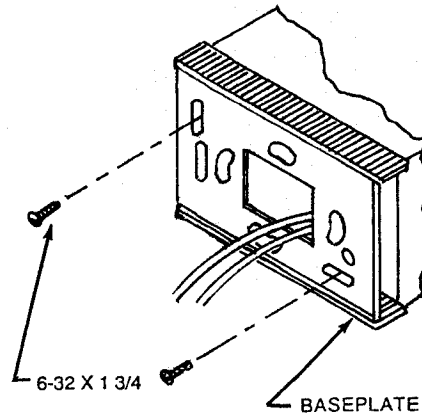

Fig. 2. Baseplate Mounting, TO900/TP900 Replacement.
4. Thread the tubes through the opening in the baseplate and mount the baseplate (Fig. 2). Level baseplate before tightening the screws.